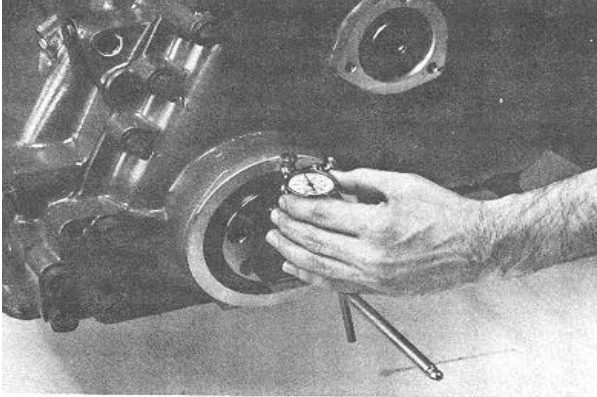

Fig. 14-38 (N114265). Check The Concentricity Of The Oil Seal Bore.
5. The oil seal bore in the gear cover must have a common center with the crankshaft. Use a dial indicator gauge to check the concentricity, Fig. 14-38. The total indicator reading must not exceed 0.010 inch [0.25 mm]. If the reading exceeds 0.010 inch [0.25 mm], do the following: